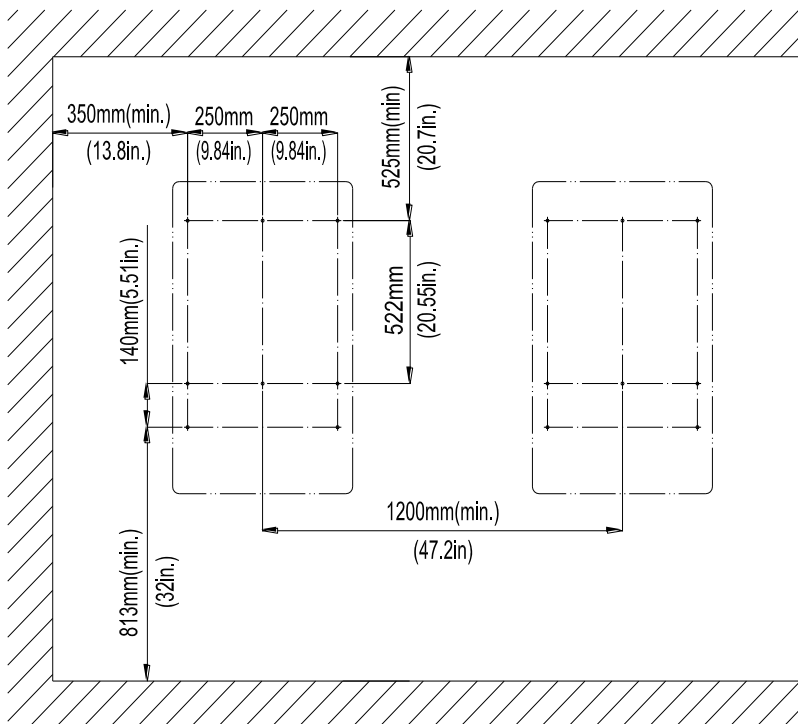

Figure 3-4 Dimensions of holes on the bearing surface
(1) Mark the 8 holes on the bearing surface for mounting the bracket as shown in Figure 3-4;